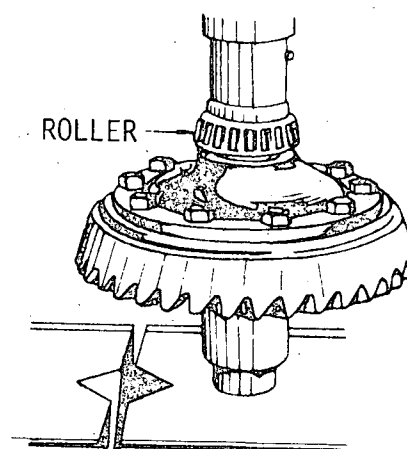

Fig. 4
- Install the side bearings of the cage (fig. 4).